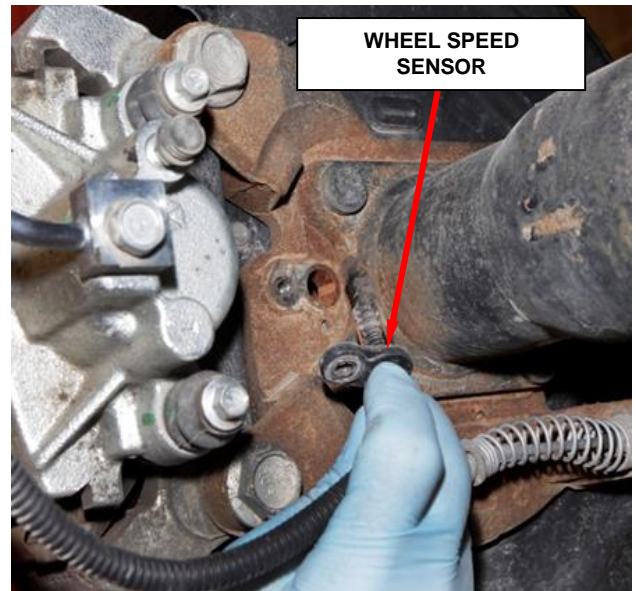

Figure 5 – Wheel Speed Sensor
6. Remove the wheel speed sensor from the brake caliper adapter (Figure 5).